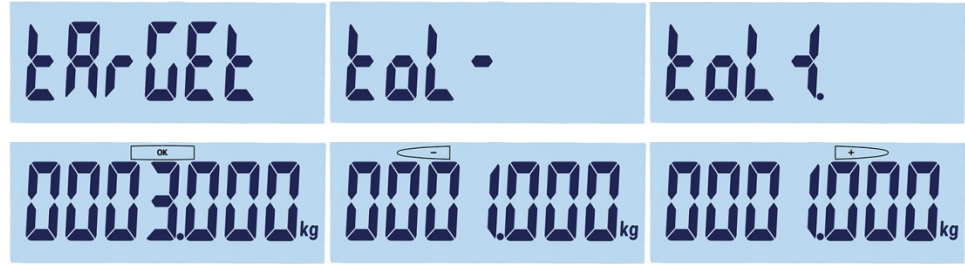

Figure 2-12: Target and Tolerance Displays: Target (left), Low (center) High (right)
- b. Otherwise, the terminal will show “Target” for 1 second, and then display zero weight (Figure 2-12). Select a digit to edit using  to move left and  to move right. Once the required digit is selected and blinking, its value can be adjusted using the  and  keys. In the example shown in Figure 2-12, the target has been set to 3 kg. Press  to accept this current value as the target and move to the next screen, “Tolerance -”.
3.  appears at upper left in the display. Set the value using the direction keys, as indicated in step b, above. In this example (Figure 2-12, center), the low tolerance is set to 1 kg. Press  to move to the next screen, “Tolerance +”.
4.  appears on the top of the screen. Set the value using the direction keys, as indicated in step b, above. Here (Figure 2-12, right), the high tolerance is set to 1 kg.